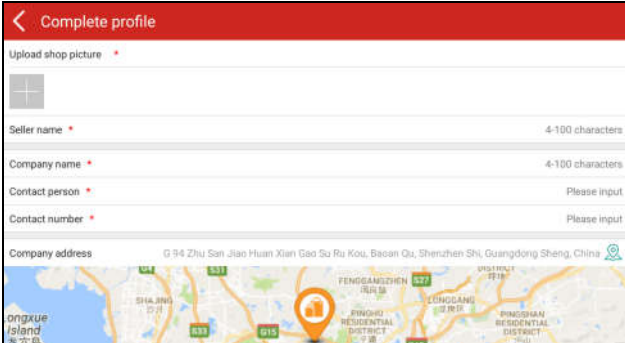

Fig. 8-2
A. If you had no golo business manager account, tap “Join” to enter a screen similar to Fig. 8-2: